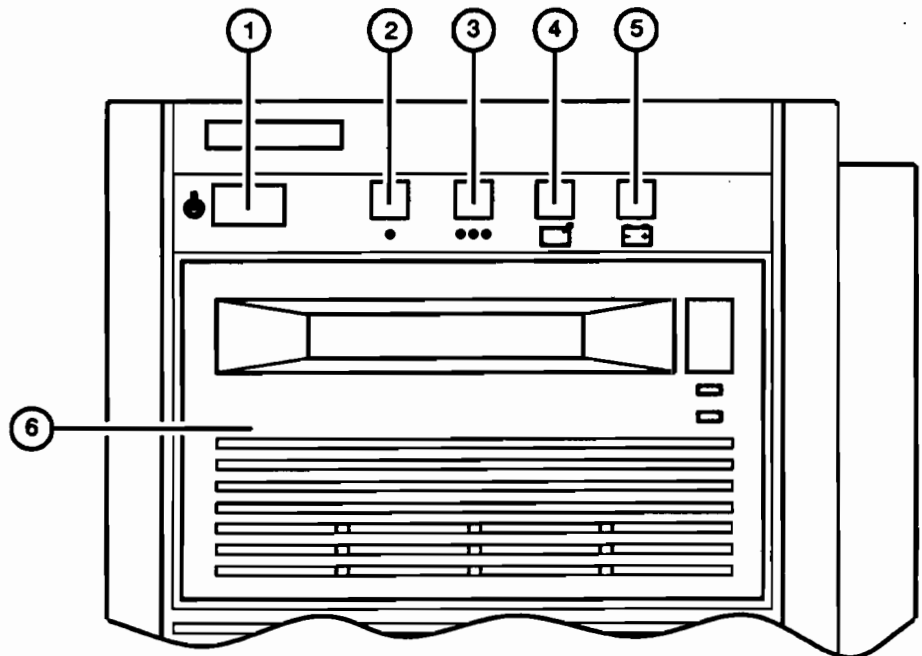

Figure 10-1. Front Panel Detail
- Run Light. See figure 10-1, number 2.
- Fault Light. See figure 10-1, number 3.
- Remote Console. See figure 10-1, number 4.
- Battery Backup. See figure 10-1, number 5.